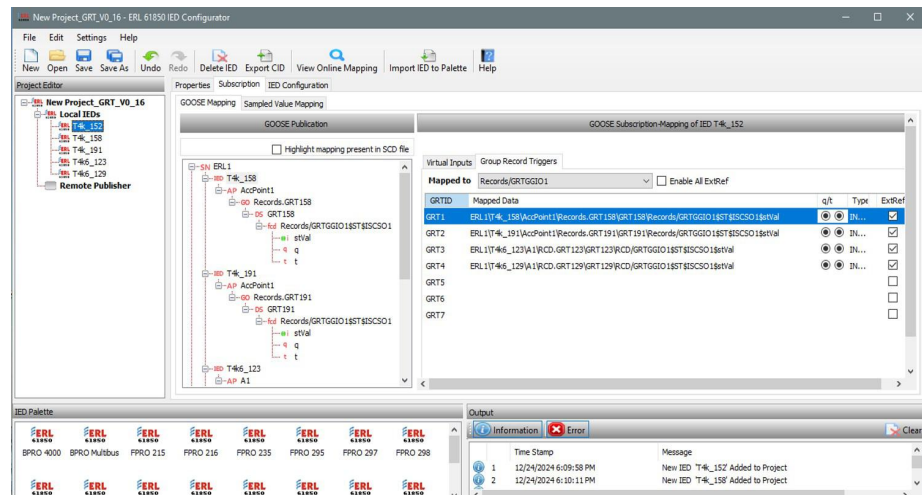

Figure 15.7: GRT Mapping
4. Go to **Subscription -> GOOSE Mapping**, select the **Group Record Trigger** tab, and map each member's GRT output to its GRT inputs (Figure 15.7).